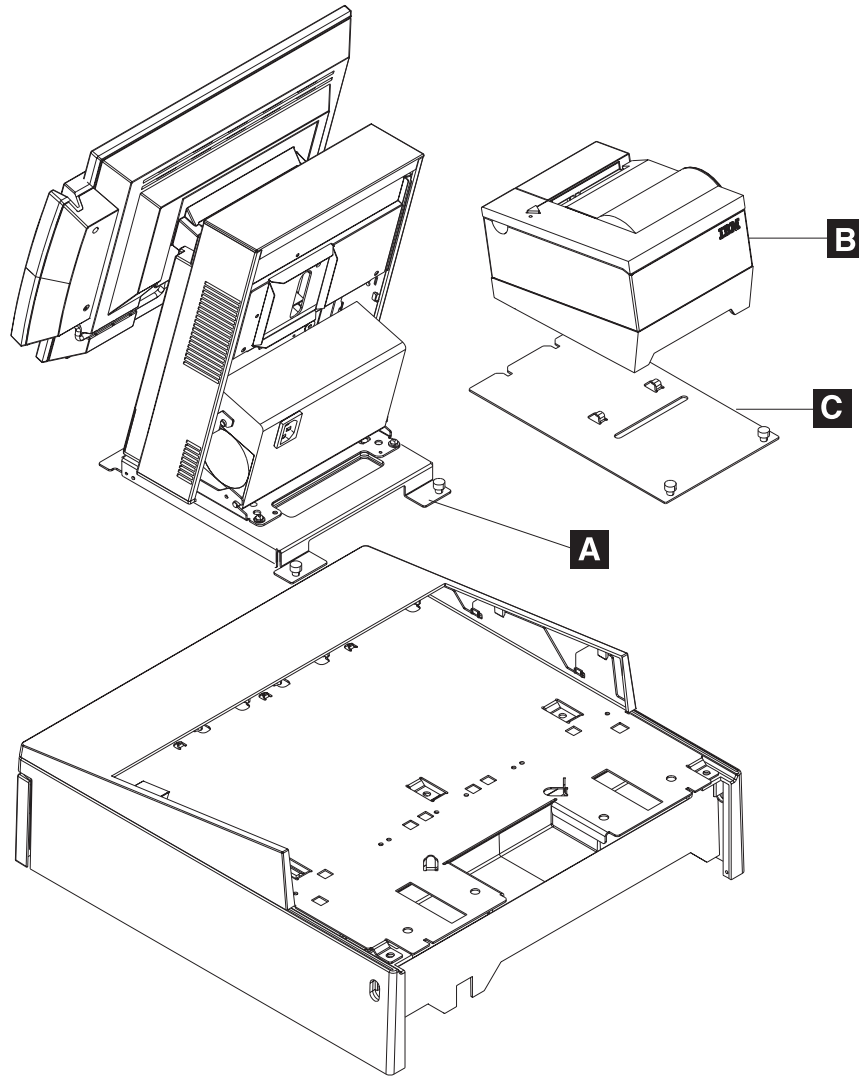

Figure 34. Attaching mounting plate to the cash drawer integration tray
- b. Attach the SurePOS 500 Models 545 and 565 base mounting plate **A** to the right side of the integration tray. Slide the front of the plate under the appropriate pair of tabs on the integration tray. Secure the rear of the plate to the tray with two thumbscrews as shown in Figure 34.